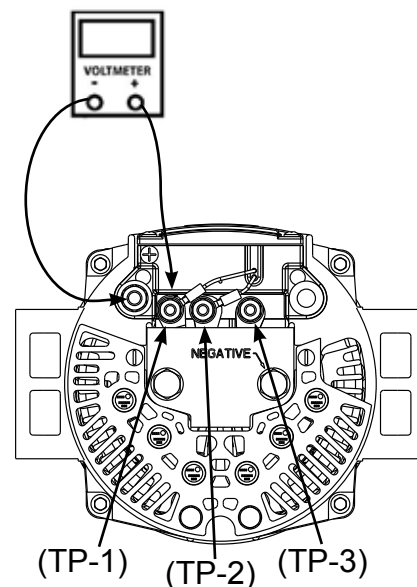

Fig 1
- Step 2: Connect positive test lead (+) to alternator AC post (TP-1) and negative test lead (-) to alternator B+ post. Move the positive test lead (+) to (TP-2) and (TP-3). Record readings at all three TP locations. See Fig 1.